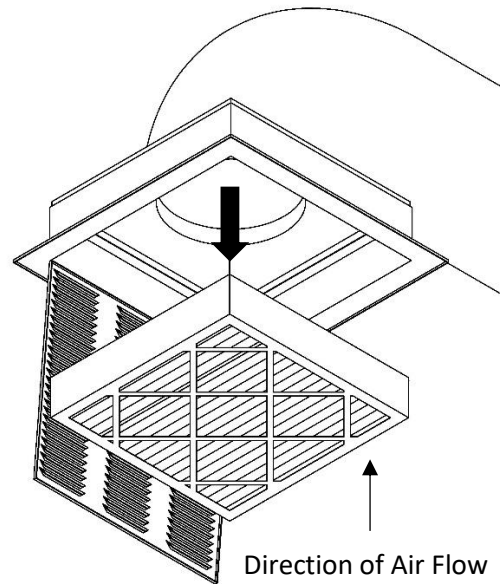

Figure 6
- 2.) Remove old air filter. See Figure 6.
- 4.) Insert new air filter. Ensure that arrows on filter match the direction of air flow. See Figure 6.